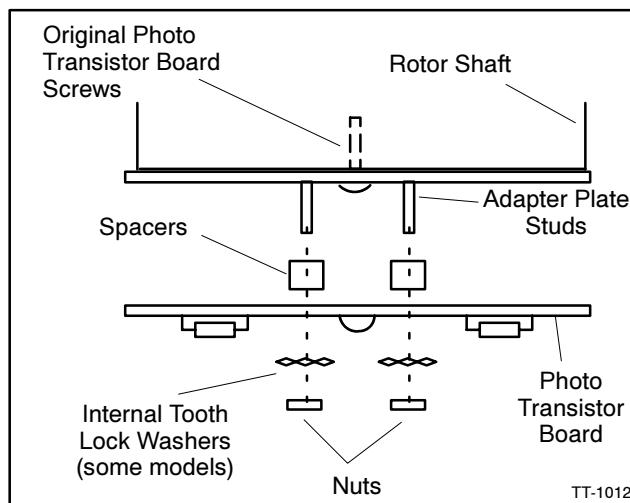

Figure 12 Photo Transistor Board Mounting
16. Attach photo transistor board (GM34505) and two spacers (X-712-19) to adapter plate studs using two washers (X-22-9) and nuts (X-70-11). Torque to 1.1 Nm (10 in. lb.) maximum. See Figure 12 for component sequence.